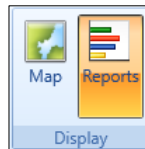

Figure 5-51 Metric Results Tab – Display Ribbon Group
1. Click the *Reports* button in the *Display* ribbon group (Figure 5-51).